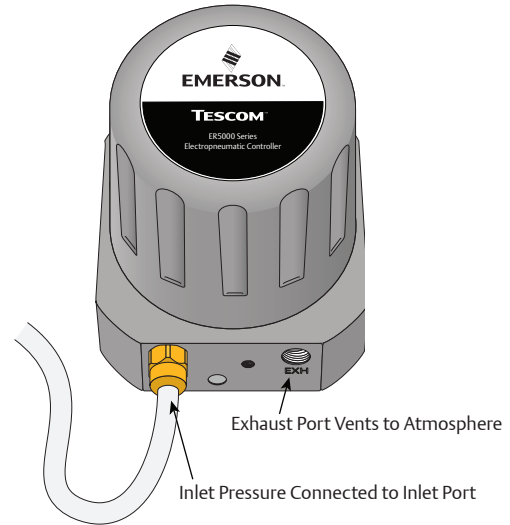

Figure 65: Proper Installation of Inlet Pressure
- The inlet pressure must go into the Inlet Port, which is the left port (as shown in Figure 65). There must be a proper air tight seal, using a connector such as the TESCOM™ 80129 1/8" NPTF male tube connector.